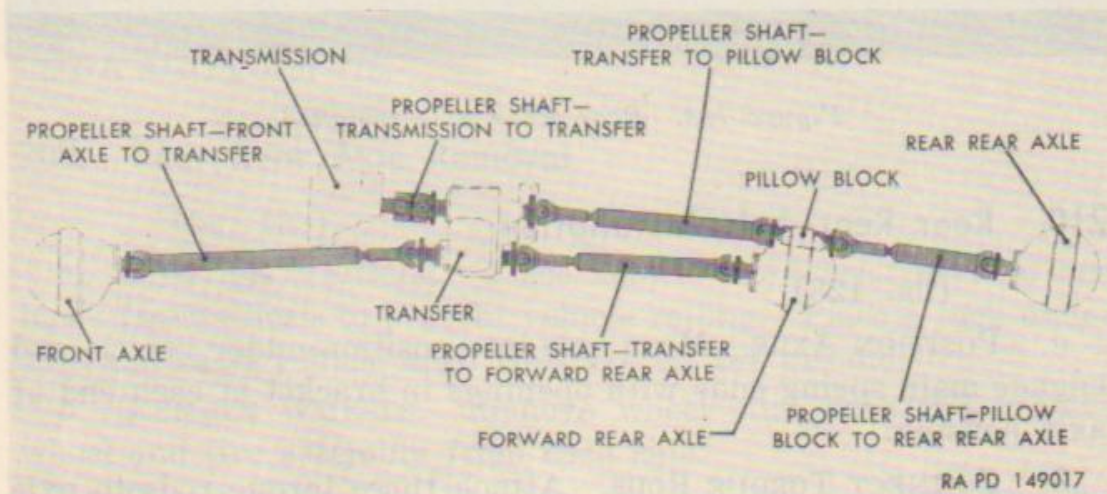

Figure 124. Propeller shafts and universal joint arrangement.
a. GENERAL. Propeller shafts, pillow block, and drive and driven units arrangement is illustrated in figure 124. Drive between transmission and transfer is transmitted through two universal joint assemblies. Drive from transfer to axles is through conventional tubular type propeller shafts.
e. **PILLOW BLOCK.** Pillow block assembly, mounted on top of forward rear axle, connects and supports the two propeller shafts required to transmit power from transfer to rear rear axle (fig. 124).
Note. Propeller shafts are installed with slip joint toward front of vehicle except shaft used between front axle and transfer, which is installed with slip joint toward rear of vehicles (fig. 124).